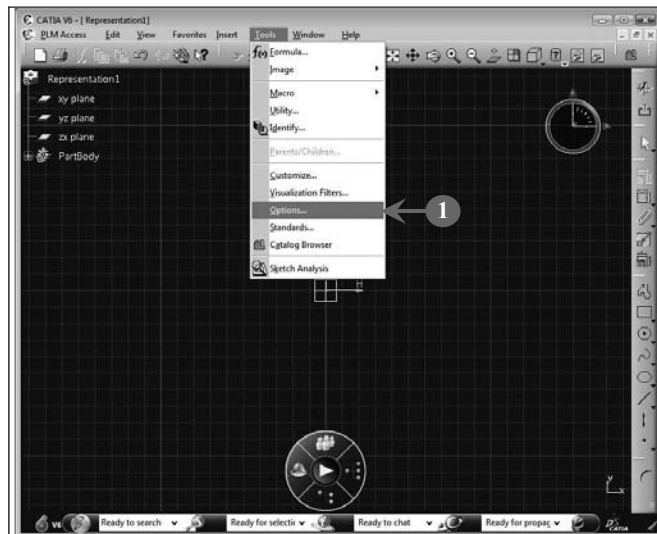

FIGURE 2.3
1. Select **Tools**>**Options**, as shown in **Figure 2.3**: